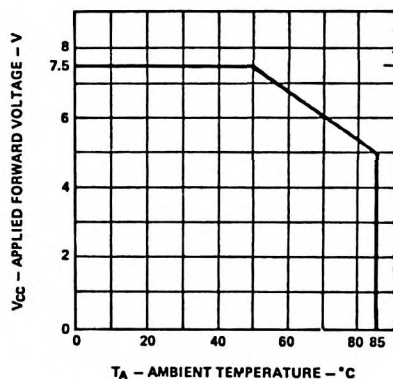

Figure 3. Maximum Allowed Applied Forward Voltage vs. Ambient Temperature $R\theta_{JA} = 175^{\circ}\text{C/W}$. 5 Volt Devices
2. Derate from $T_A = 50^\circ\text{C}$ at $0.071\text{V}/^\circ\text{C}$, see Figure 3.